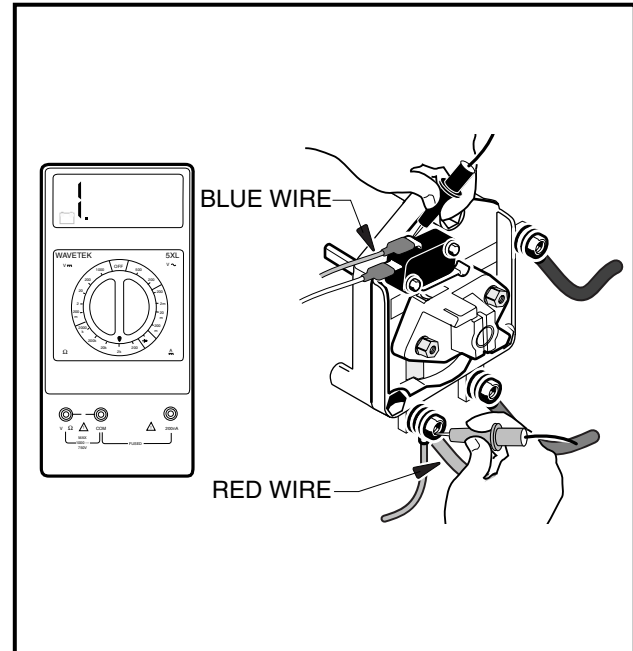

Figure 11-4 Key Switch Test
2. Place the red (+) probe of a multimeter (set at  $\Omega$ ) on the forward terminal of the Forward/Reverse switch and place the black (–) probe on the upper (COM) terminal of the Forward/Reverse anti-arcing limit switch (**Figure 11-4, Page 11-8**). With the key in the OFF position, the reading should be no continuity.